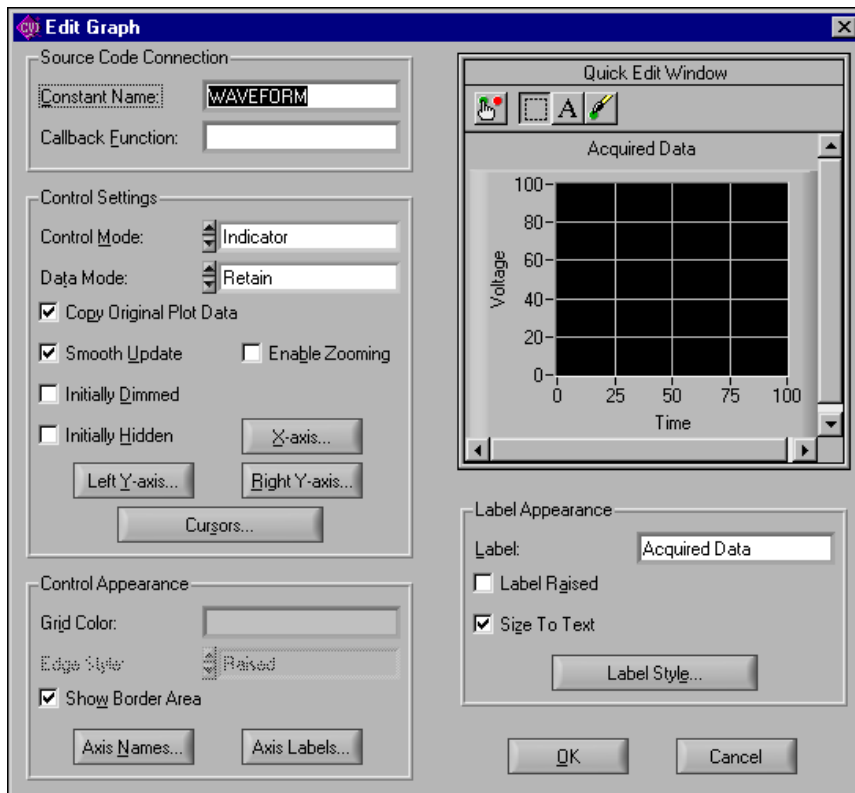

Figure 5-3. Edit Graph Dialog Box
5. Type `Acquired Data` in the **Label** control. Confirm that the dialog box looks exactly as shown in Figure 5-3.